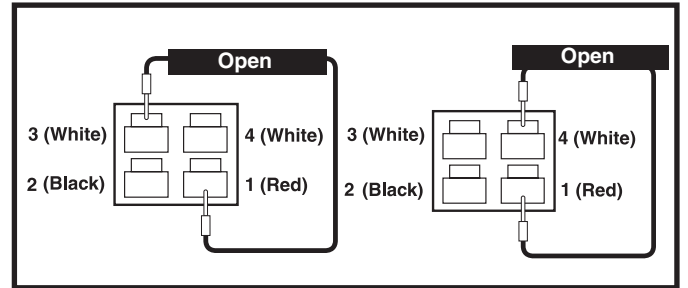

Figure 30. Connector 8a
6. Measure resistance across pin 1 (red) and pin 3 (white) and across pin 1 (red) and pin 4 (white) on connector 8a. **See figure 30.**
- If your multimeter indicates an open on either test, then replace the power interface harness (2) and retest the system.
- If your multimeter indicates less than 1 ohm on both tests, then replace the left motor (8) and retest the system.